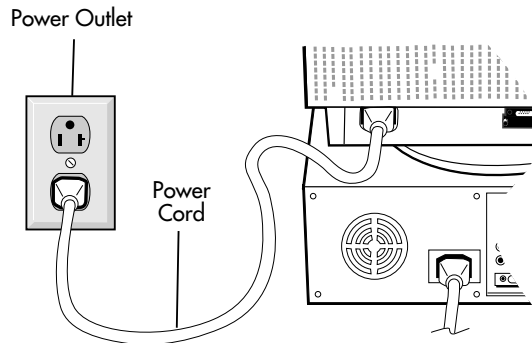

Figure C.1
5. Connect one end of the power cord to the MultiSync monitor and the other end to the power outlet (Figure C.1).